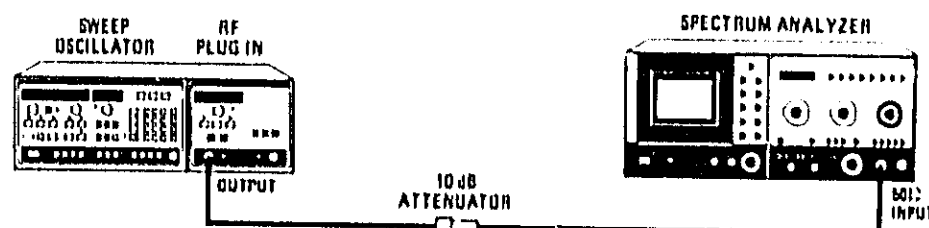

Figure 4-14. 100 Hz External Frequency Modulation Test Setup
1. Ensure that modulation sensitivity is set to -20 MHz/volt and modulation coupling to DC (see Figure 3-10 Configuration Switch). Connect equipment as shown in Figure 4-14.